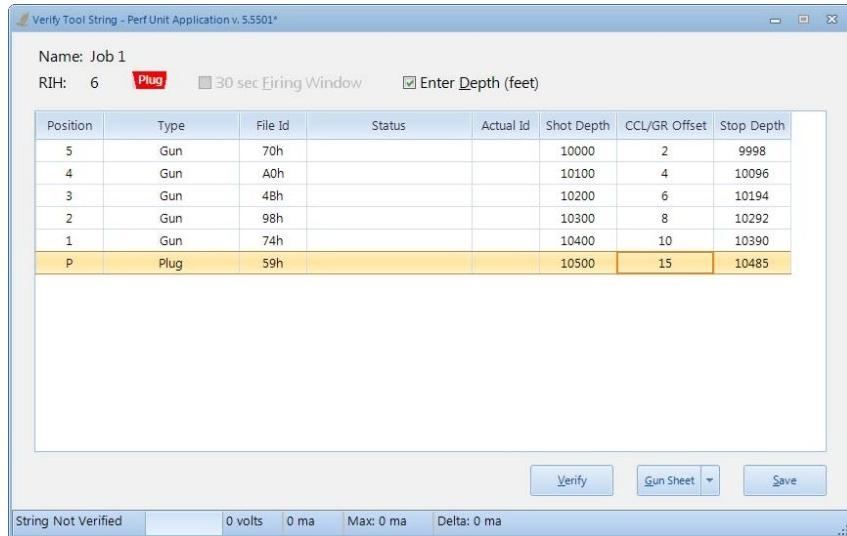

Figure 27
3. Enter Shot Depths and CCL/Depth for each item in the tool string. The Stop Depth will automatically populate as shown in Figure 27. **This step is optional.**